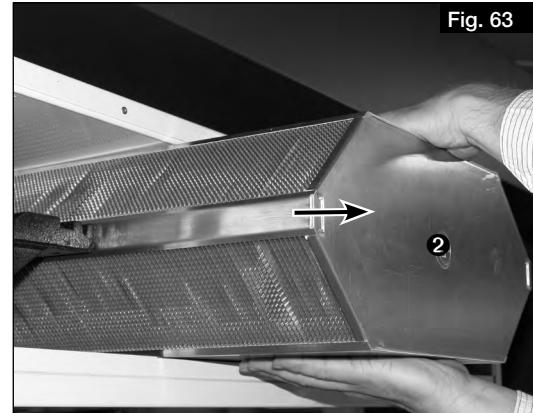

Fig. 63
3. Carefully remove the heat exchanger ② from the unit (see Fig. 63). Ensure that the fins are not damaged!